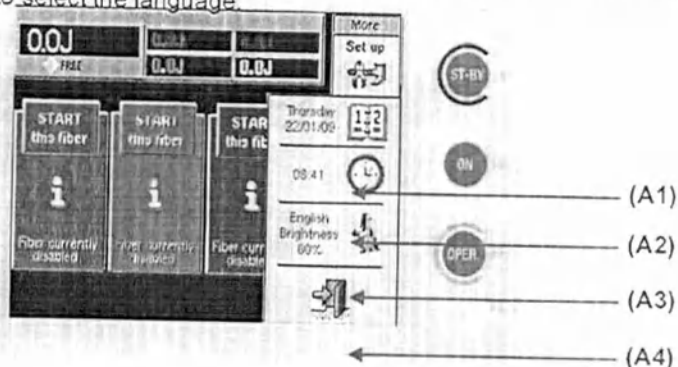
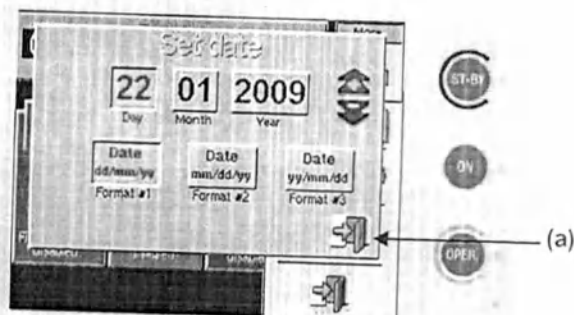
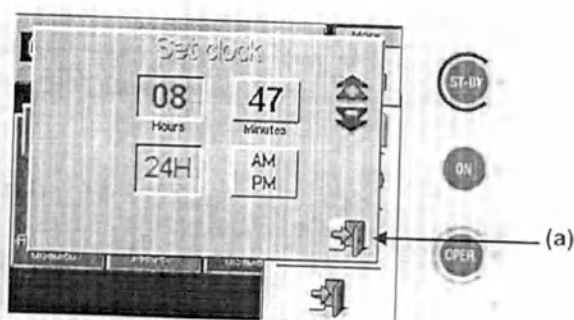
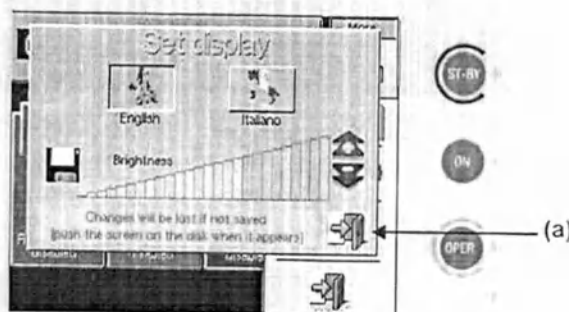

Fig. 17 - "Set up" menu
Fig. 18 - "Set date" menu
Fig. 19 - "Set clock" menu
Fig. 20 - "Set display" menu
The area shown as (A1) in Fig. 17 let the user set the apparatus date: the apparatus displays the menu shown in Fig. 18.
Press one of the areas called "Format #" to choose the date format between dd/mm/yy, mm/dd/yy and yy/mm/dd; touch the '+' red arrow or the '-' blue arrow to change the selected parameter between day, month or year. To select a parameter just press the corresponding area: it will be highlighted with red characters - e.g. day in Fig. 18 -.
Press the area (A) in Fig. 18 to close the window: the changes not saved will be lost.
The area shown as (A2) in Fig. 17 let the user set the apparatus clock: the apparatus displays the menu shown in Fig. 19.
To select a parameter just press the corresponding area: it will be highlighted with red characters - e.g. hour in Fig. 19 -.
Press the area (a) in Fig. 19 to close the window: the changes not saved will be lost.
The area shown as (A3) in Fig. 17 plot the user set the apparatus language and the screen brightness: the apparatus displays the menu shown in Fig. 20.
When a parameter is changed, a floppy disk icon is displayed on the screen just next to the modified parameter - see the screen on the left in Fig. 20 -: touch the disk icon to save changes.
Press the area (a) in Fig. 20 to close the window: the changes not saved will be lost.